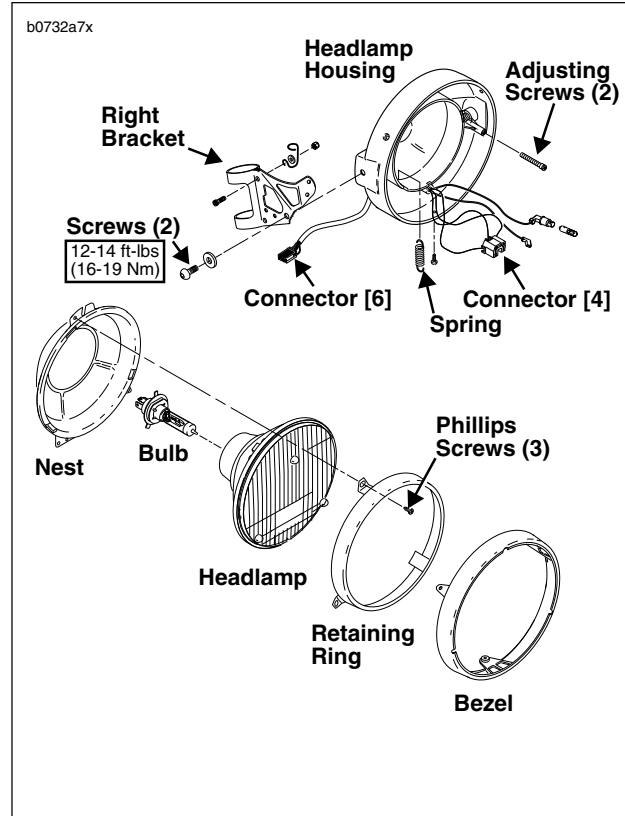
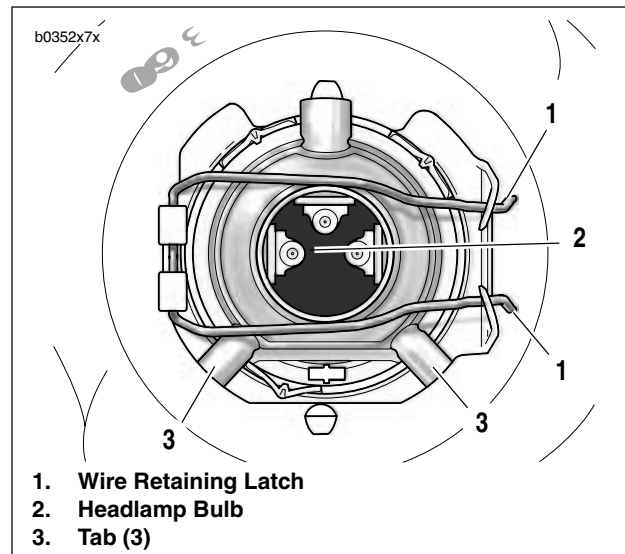

Figure 7-59. Headlamp Assembly
Figure 7-60. Headlamp Bulbs
2. See Figure 7-59. Remove three screws and bezel from nest.
6. See Figure 7-60. Remove headlamp bulb.
- a. Open wire retaining latch (1).
3. See Figure 7-59. Remove two screws and washers and remove headlamp housing from vehicle. Remove both windscreen brackets.
- See Figure 7-59. Install bracket with two screws.
- See Figure 7-59. Place windscreen brackets in position and install headlamp housing using two screws (metric) and washers (2). Tighten to 12-14 ft-lbs (16-19 Nm).
- See Figure 7-60. Install headlamp bulb (2).
- Align tabs (3) on bulb housing with tabs on headlamp. Insert bulb.
- Close the wire retaining latch (1).
- See Figure 7-59. Place rubber boot into position and connect headlamp connector [4] to headlamp.